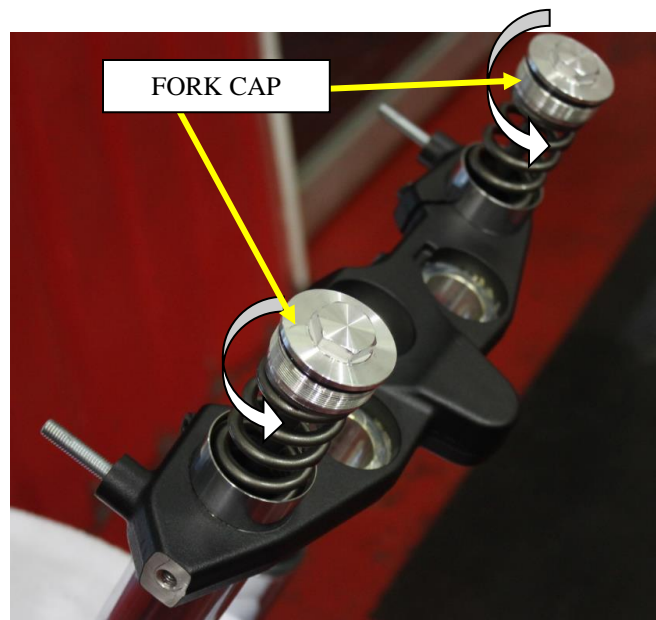

Figure 25: Unscrew the fork caps.
8. Install one of the OEM triple trees onto the down tubes and tighten the clamp bolts. Unscrew each fork cap from the down tubes. The damping rod will still be attached to the fork cap when you remove it. Slide the down tube toward the wheel to gain further access. See Figure 25.